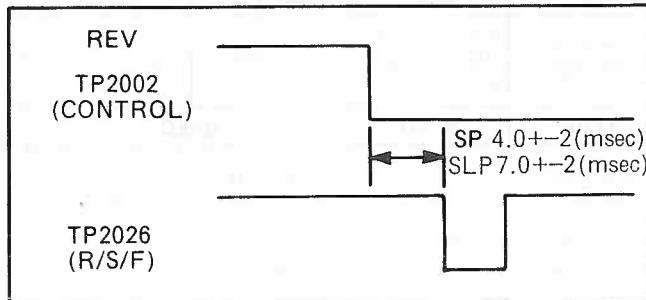

Fig. E5
2. Adjust VR2019 so that the phase difference becomes $4.0+/-2$ (msec) as shown in Fig.E5.
4. Adjust VR2018 so that the phase difference becomes $7.0+/-2$ (msec) as shown in Fig.E5.